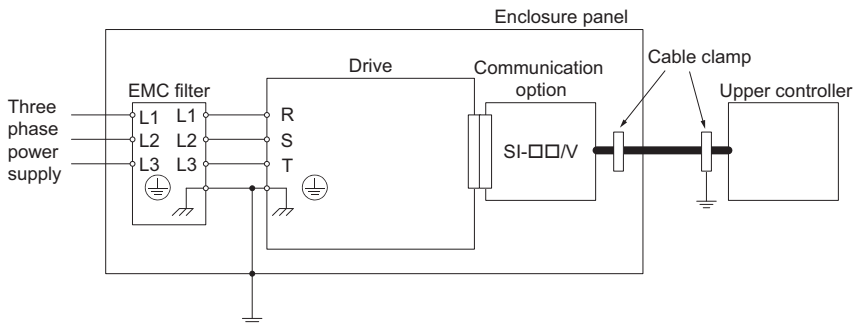

Figure 26 EMC Filter and Option Installation for CE Compliance
2. Keep wiring as short as possible and ground the largest possible surface area of the shield to the metal panel according to Figure 26.